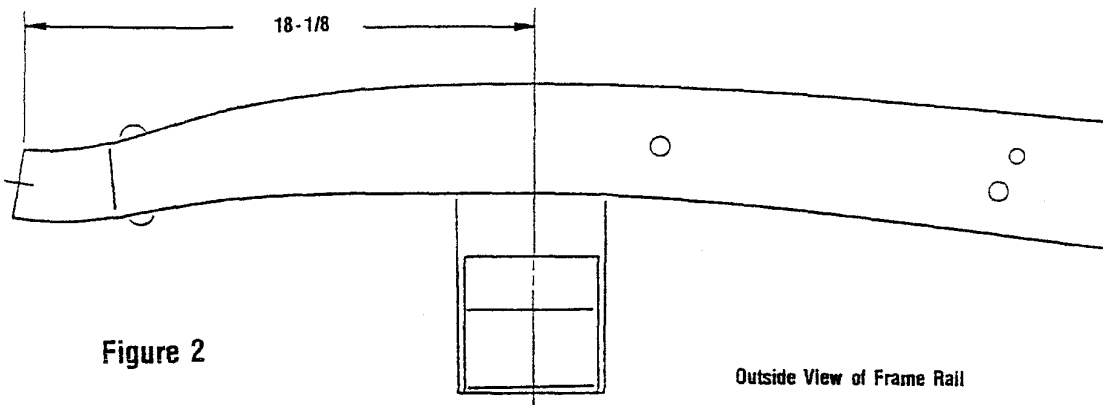

Figure 2
5. Now it is time to start fitting and installing the new components in the frame. Start with the new crossmember. Slip it into the frame, center it on the scribed axle center line (Figure 2). If it does not fit, grind the sides of the crossmember until you can get the crossmember in place, as shown. Make sure the crossmember is seated fully on the underside of the frame. Tack weld in place, check location, then weld in place, welding all around both ends, top, sides, and bottom.